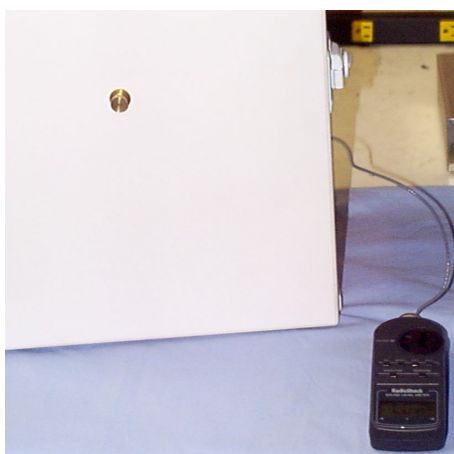

Figure 119 Door Closed with Sound Meter
2. Close the door of the cabinet and make sure the Sound Pressure Meter cable is not pulled tight (Figure 119).